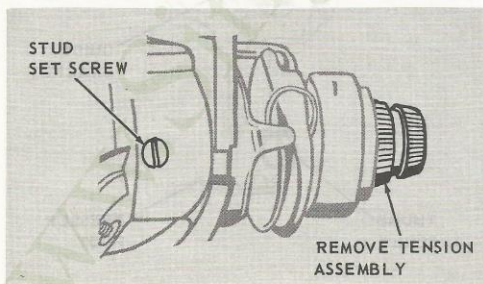

Fig. 30. Removal of Tension Assembly
1. Turn thumbnut to left until zero (0) on dial reaches indicator line.
2. Loosen stud set screw, Fig. 30, and remove entire assembly from machine.